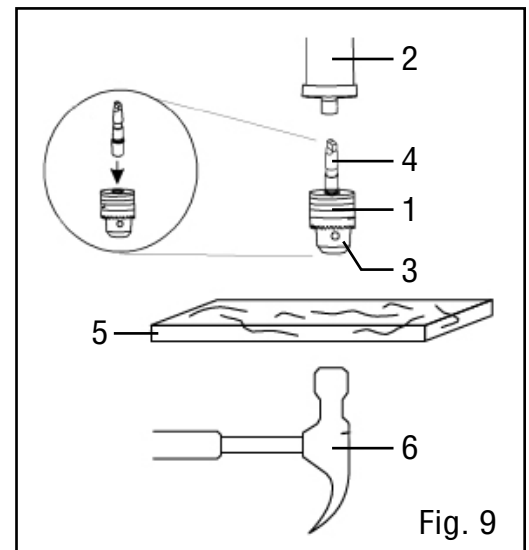

Fig. 9
INSTALL THE CHUCK (FIG. 9)
1. Inspect and clean the taper hole in the chuck (Fig. 9 - 1) and the spindle (Fig. 9 - 2). Remove all grease, coatings, and particles from the chuck and spindle surfaces with a clean cloth.
2. Open the chuck jaws (Fig. 9 - 3) by manually turning the chuck barrel clockwise. Make sure the jaws are completely recessed inside the chuck.
3. Insert the chuck arbor (Fig. 9 - 4) into the opening at the top of the chuck.
4. Insert the arbor into the spindle. Rotate it until the tang of the arbor (the flats on the end) is aligned with the slot in the spindle, and the chuck and arbor can be pushed upwards. Seat the chuck by placing a block of wood (Fig. 9 - 5, not included) below the chuck and firmly tapping the wood once with a hammer. Alternatively, firmly tap the chuck once with a rubber mallet or dead-blow hammer (not included).